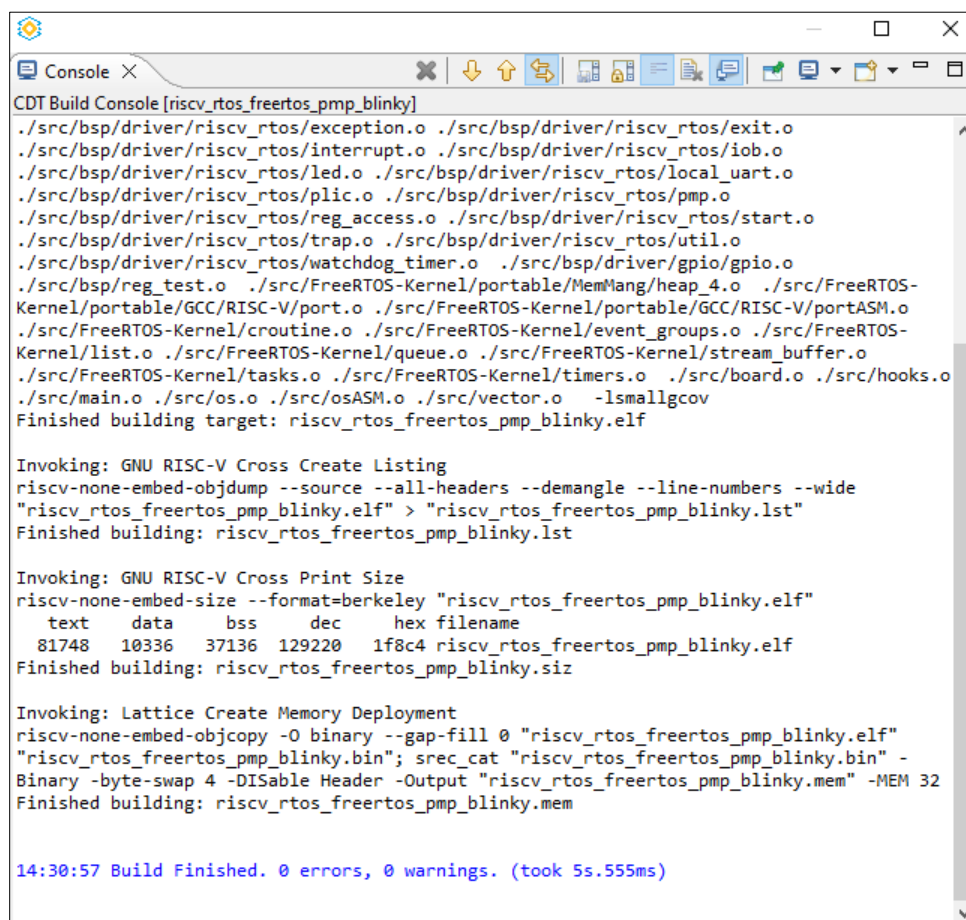

Figure A.15. Build Project Console 2
8. Rebuild the C project. You can see the build log (Figure A.15).